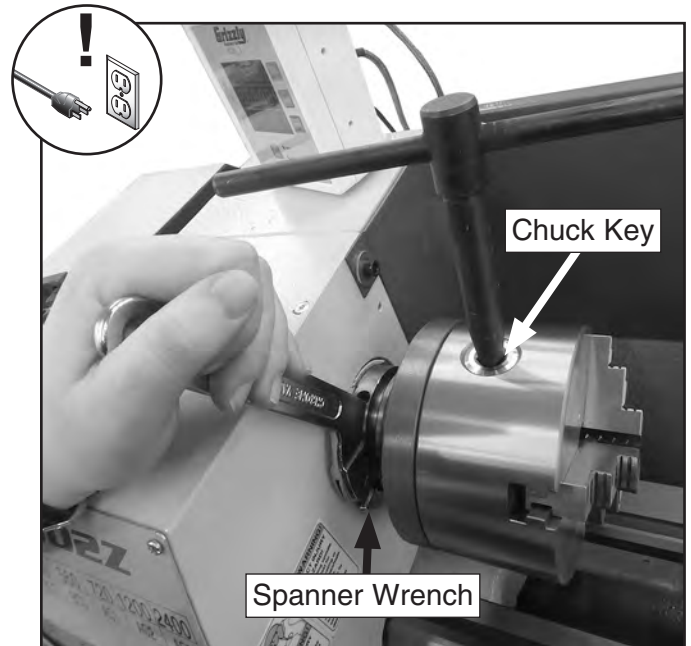

Figure 15. Example of using chuck key and spanner wrench to tighten chuck onto spindle.
5. Insert spanner wrench and tighten chuck with chuck key until it is seated snug against the spindle shoulder as shown in **Figure 15**.